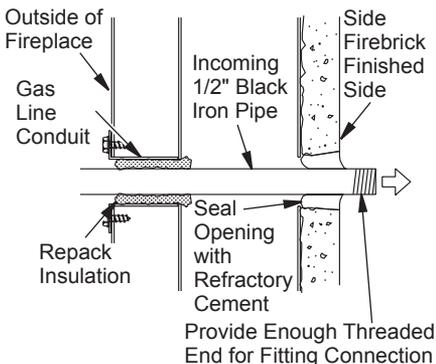

Figure 20 - Gas Line Installation
3. Run a 1/2" black iron gas line into the fireplace through the rear at gas line conduit sleeve (if using a raised platform, add height). Provide sufficient gas line into fireplace chamber for fitting connection (see Figure 20, page 12). Note: Secure incoming gas line to wood framing to provide rigidity for threaded end.